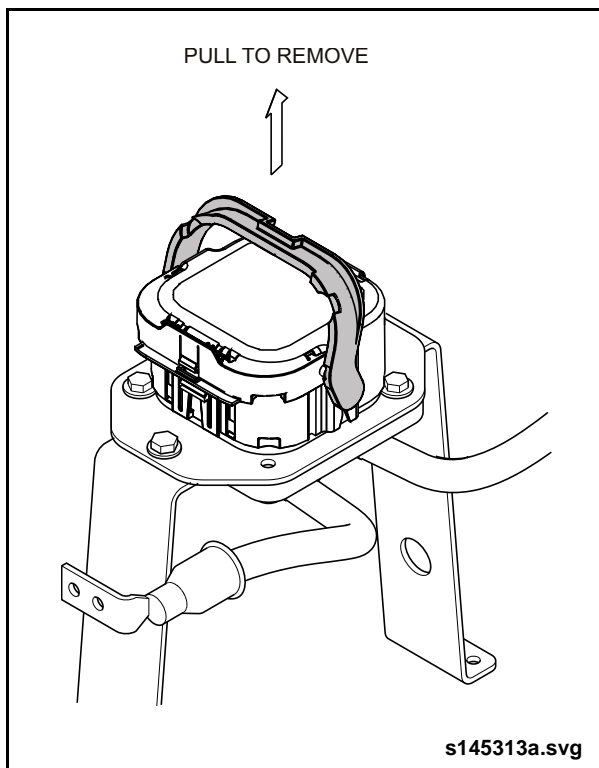

Fig. 8: Manual Service Disconnect - 3
- c. Remove the Manual Service Disconnects. See “Fig. 8: Manual Service Disconnect - 3” on page 7.